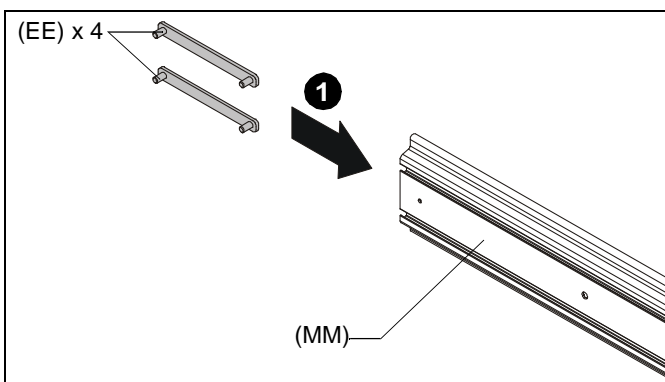

Figure 5
- Slide four T-slot studs (EE - two in top mounting rail slot and two in bottom) into end of mounting rail (MM). (See Figure 5)